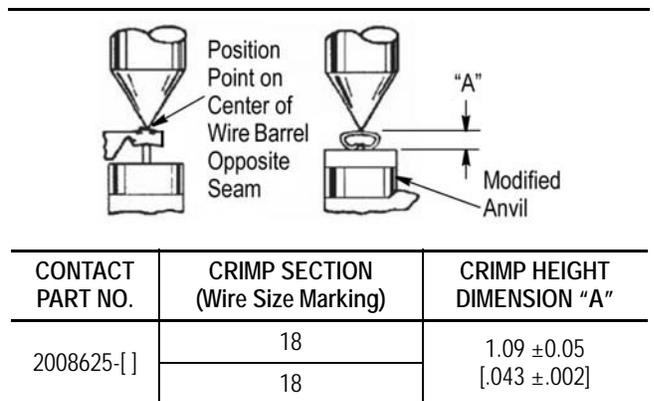

Figure 3
This inspection requires the use of a micrometer with a modified anvil as shown in Figure 3.
1. Refer to the table in Figure 3 and select a contact and a wire (maximum size) for each crimp section listed in the table.
3. Using a crimp height comparator, measure the wire barrel height as shown in Figure 3. If the crimp height conforms to that shown in the table, the tool is considered dimensionally correct. If not, return the tool to TE for evaluation and repair.